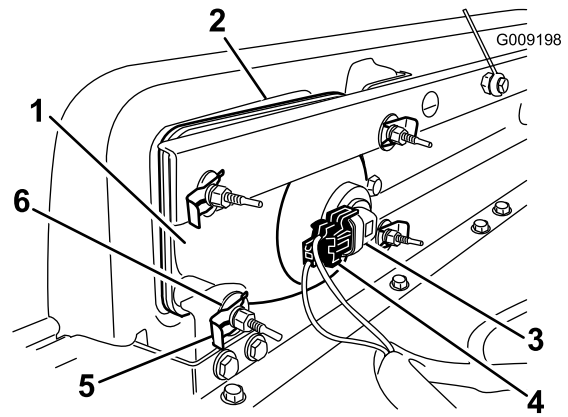

Figure 27
2. Remove the headlight assembly by moving it forward through the opening in the front bumper (Figure 27).
3. Install the new headlight through the opening in the bumper (Figure 27). Ensure the adjustment posts are lined up with the holes in the mounting bracket in the bumper.